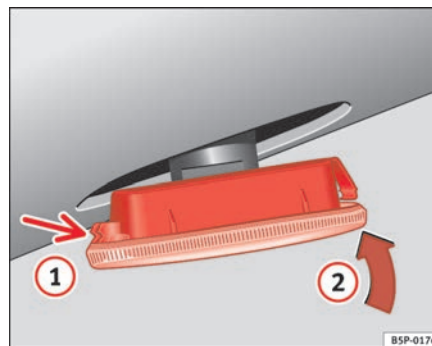

Fig. 190 Side indicator
- First place the indicator in the opening in the bodywork, fixing the tabs ⇒ page 259, fig. 190, arrow ①.
- Insert the bulb as shown by the arrow ② ⇒ page 259, fig. 190. ■